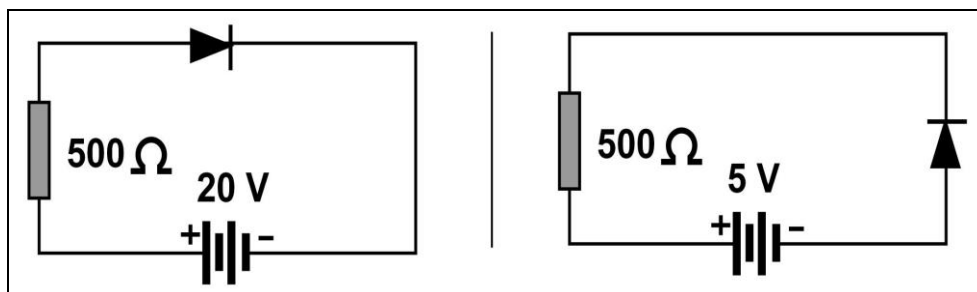

Fig. 3.1-25
2. In each circuit of Fig. 3.1-25, indicate whether the diode is forward-biased or reverse-biased. What is the voltage across each Silicon diode?